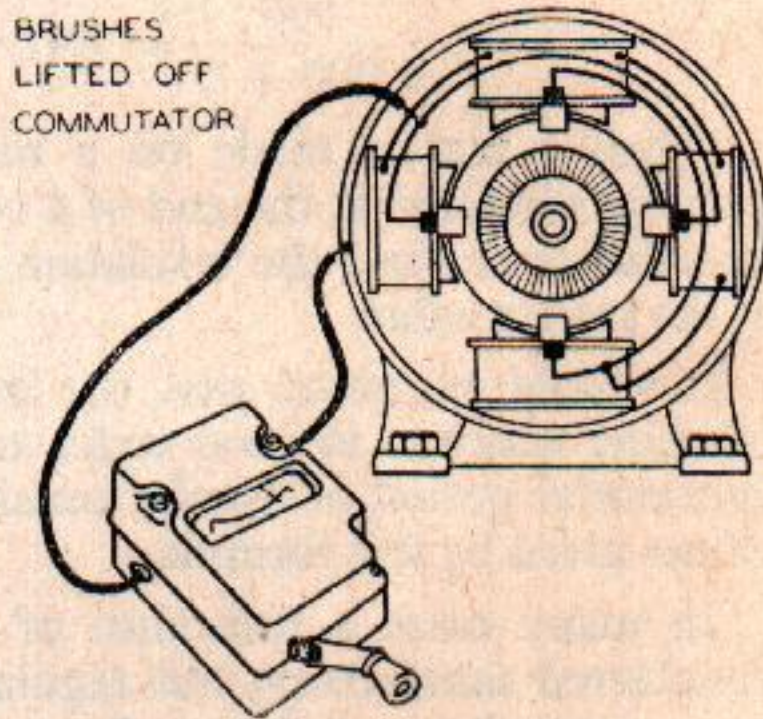

Figure 8
2. With the brushes lifted from contact with the commutator (Figure 8) ;